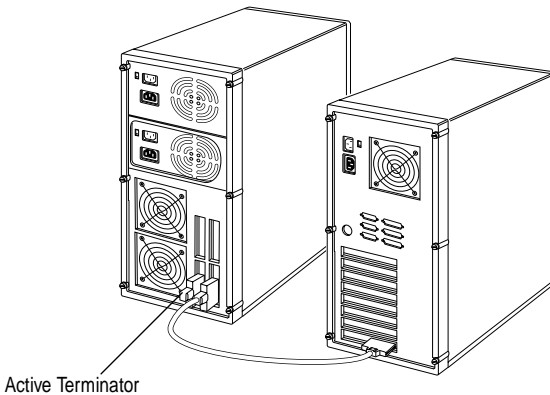

Figure 2-16. A Typical Array Enclosure Setup
To help you conveniently manage your SCSI storage subsystems, a variety of external array enclosures are available from different manufacturers. Figure 2-16 shows a typical setup between the array enclosure and the server. To install your SCSI peripherals in these enclosures, refer to the enclosure's documentation. The following information is provided to help you properly connect your enclosure to the server: (See the Adaptec Web site at <http://www.adaptec.com/raid> for a list of popular array storage enclosures and disk drive manufacturers.)
- Ideally, the array enclosure itself should provide termination capability, either on the SCSI backplane or with an attachable active terminator, as shown in Figure 2-16, and you should disable termination on all the drives in the enclosure. If you terminate the SCSI bus by enabling termination on a drive, you may run into problems if you have to replace that drive and you then forget to terminate the replacement drive.